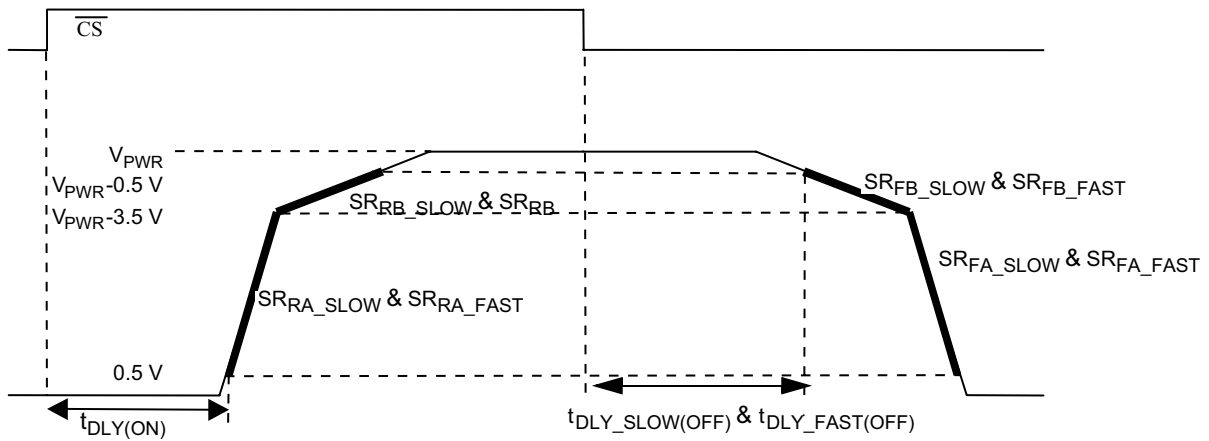

Figure 4. Output Slew Rate and Time Delays
19. Rise and Fall Slew Rates A measured across a $5.0\ \Omega$ resistive load at high-side output = 0.5 V to $V_{PWR}-3.5\text{ V}$ (see Figure 4, page 13). These parameters are guaranteed by process monitoring.
20. Rise and Fall Slew Rates B measured across a $5.0\ \Omega$ resistive load at high-side output = 0.5 V to $V_{PWR}-3.5\text{ V}$ (see Figure 4). These parameters are guaranteed by process monitoring.